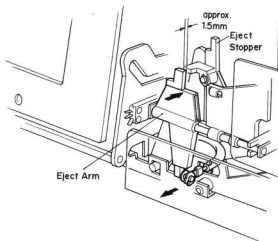

Fig. 5.20.1
(1) Referring to Fig. 5.20.1, insert a 1.5 mm spacer between the Eject Arm and Eject Stopper by turning the Eject Arm in the illustrated direction, then set the N-581 in playback mode.